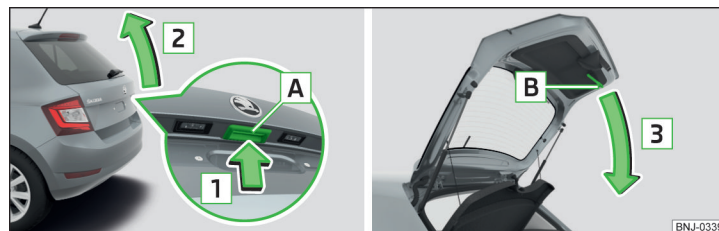

Fig. 50 Opening / closing the boot lid
- To **open** the boot lid, press button **A** in the direction of arrow **1** » Fig. 50.
Button **A** » Fig. 50 is disabled when starting off or driving at a speed of over 5 km/h. The button is reactivated when the vehicle has stopped and a door is opened.